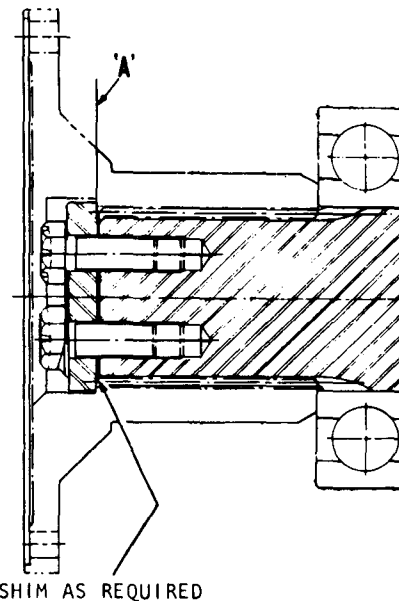

Fig. 4-7. Measurement to determine flange shim thickness
(1) If the transmission is equipped with input and/or output flanges which require shims, use the following procedure to determine the shim pack thickness.
(2) Install the flange onto the splined shaft. Install the flange washer and the two self-locking bolts. Tighten the bolts sufficiently to draw the flange into its final position on the shaft.
(3) Remove the two bolts and flange washer. Measure and record the dimension from the flange washer seat in the flange (face A) to the end of the shaft (fig. 4-7).
(4) For input shafts, subtract 0.007 inch (0.17 mm) from the recorded dimension; for output shafts, subtract 0.010 inch (0.25 mm). The remainder is the thickness of the shim pack required for the specific location.